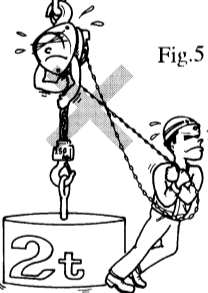

Fig.5
6) Do not apply an overload to the chain hoist, that is, do not apply a load exceeding the number of tons (rated load) indicated on the nameplate. The chain hoist is designed to be capable of lifting the rated load by pulling the hand chain with forces 25 to 30 kgs. It means that the load exceed the rated load (over-loaded) or the chain hoist is not in order, when the hand chain has to be pulled with force more than the said values. Never continue to use the chain hoist in such conditions where the hand chain cannot be easily pulled. (Fig.5)